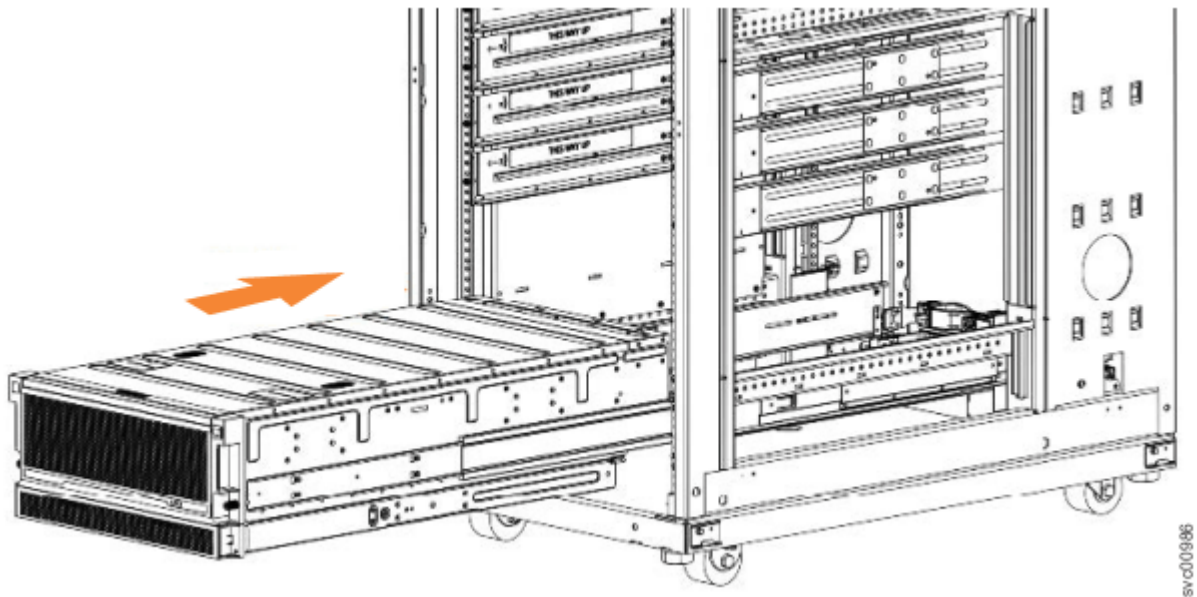

Figure 38. Example installation of the enclosure in the rack
- Install the expansion enclosure in the lowest position in the rack. Figure 38 on page 47 shows an example.